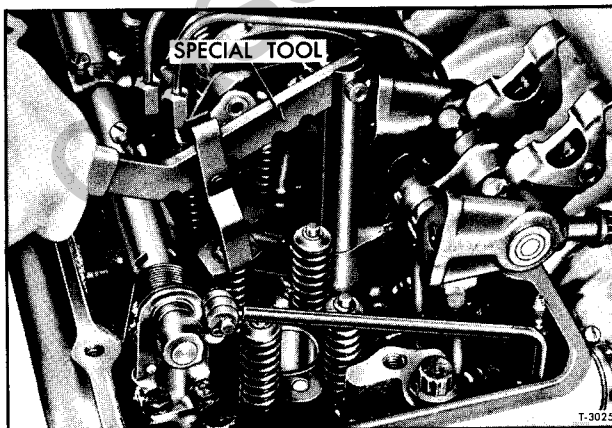

Figure 13—Use of Special Tool for Removing Valve Spring with Cylinder Head Installed
6. Thread the spring compressor tool into one of the cylinder head bolt holes (fig. 13). Then, compress the spring and remove two-piece valve lock.